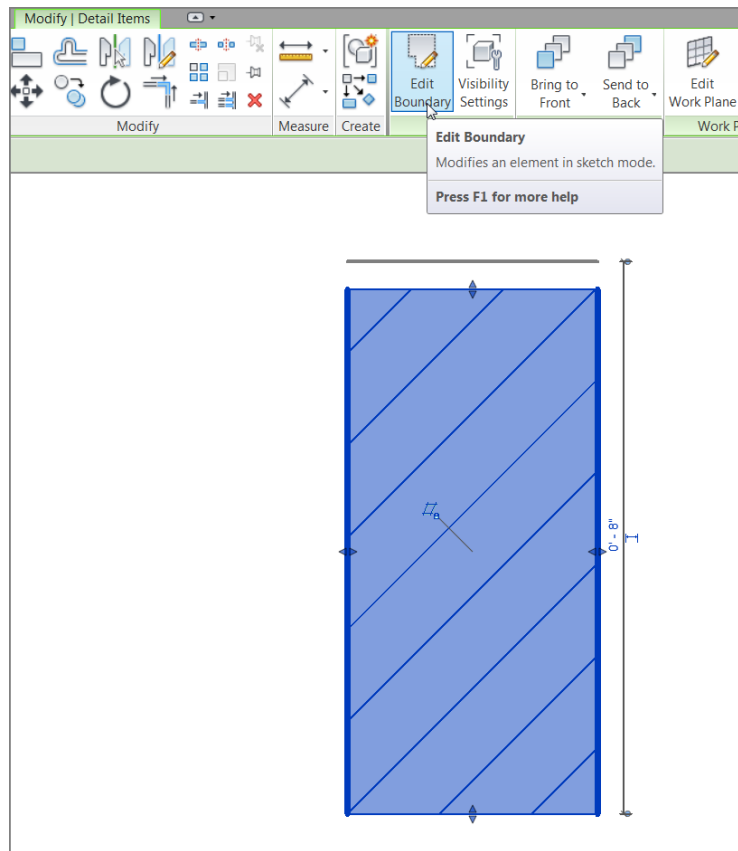

FIGURE 12.16: Editing the boundary of the filled region
8. Select the line that is hovering over the top of the brick, and mirror it to the bottom so you have a line above and a line below the brick, as shown in Figure 12.16.
9. Select one of the heavy lines that form the outline of the brick (see Figure 12.16). Revit indicates that this is a filled region, as revealed in the tooltip that appears when you hover your pointer over one of the boundaries.
10. On the Mode panel of the Modify | Detail Items tab, click the Edit Boundary button (see Figure 12.16).